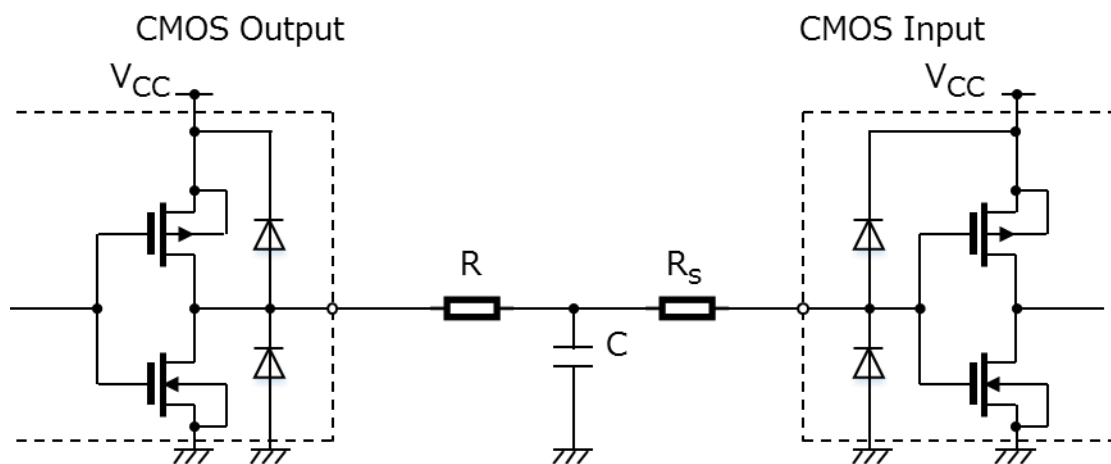

Figure 2.1 Connecting a large load capacitance
If it is necessary to connect a capacitor directly to the output of a CMOS IC in order to increase its delay time or filter out noise, its capacitance should be 500 pF or less. When a larger capacitor is required, a current-limiting resistor (R) should be connected between the IC output and a capacitor as shown in Figure 2.1. CMOS ICs with an output-tolerant function do not need a current-limiting resistor (R) for power-down. However, a current-limiting resistor (R) might be necessary to limit the flow of charge current into the capacitor.
When a capacitor is discharged as a result of power-down, current flows to an internal protection diode and is returned to V_{CC} via the input pin. Therefore, a large load capacitance should not also be connected directly to an input pin. A capacitor of up to 500 pF may be connected directly to the input of a CMOS IC, but when a larger capacitor is required, a current-limiting resistor (R_s) should be connected between the IC input and a capacitor as shown in Figure 2.1.